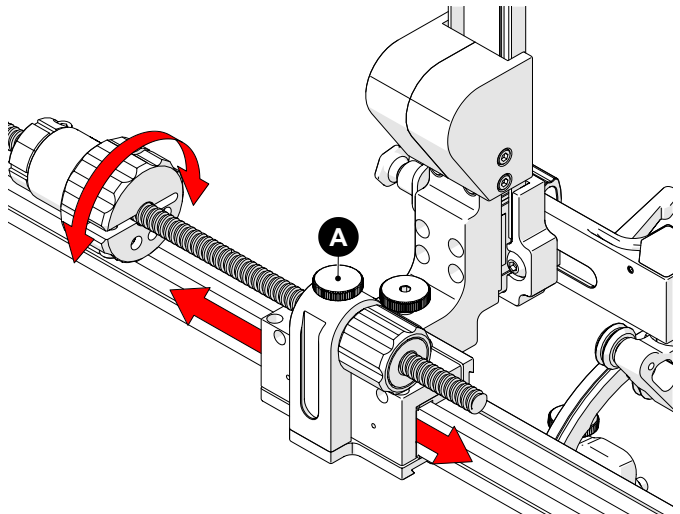

Fig. 97 - Slider positioning
1. Ensure the slider lock knob (Fig. 97-A) is tight and rotate the main knob to position the slider (Fig. 97).